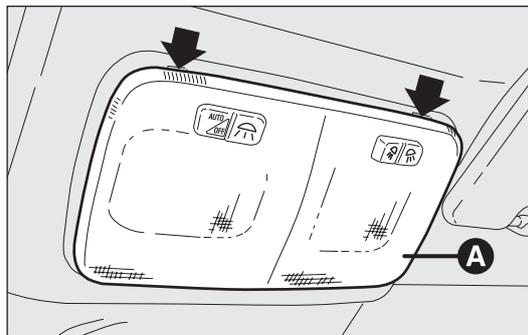
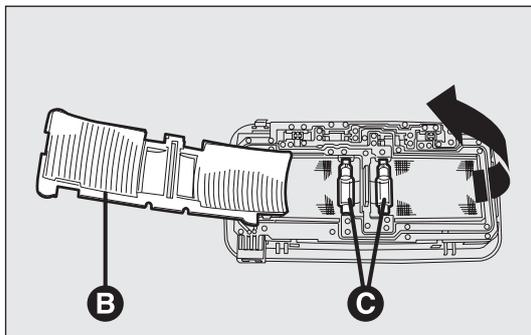

fig. 200
fig. 201
- work in the points shown by the arrows and remove light A-fig. 200;
- open the protective flap B-fig. 201;
- replace bulbs C-fig. 201 releasing them from the side contacts; make sure that new bulbs are correctly clamped between the contacts;
- close the flap B-fig. 201 and secure the ceiling light A-fig. 200 in its housing locking it properly.